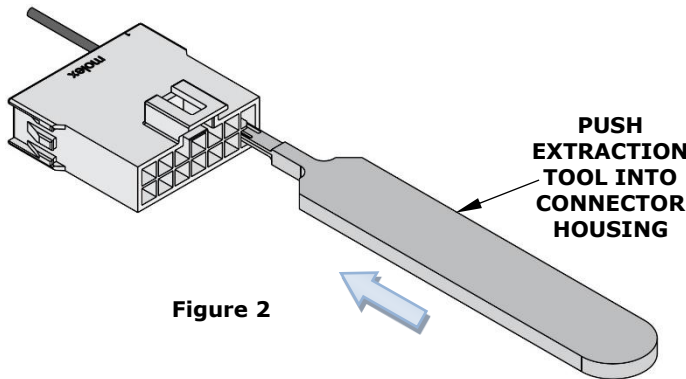

Figure 2
2. Insert the extraction tool into the front of the connector housing. See Figure 2. The extraction tool should lightly rest on top of the nose of the terminal, as shown in Figure 3. Make sure that the terminal nose is straight in the housing.